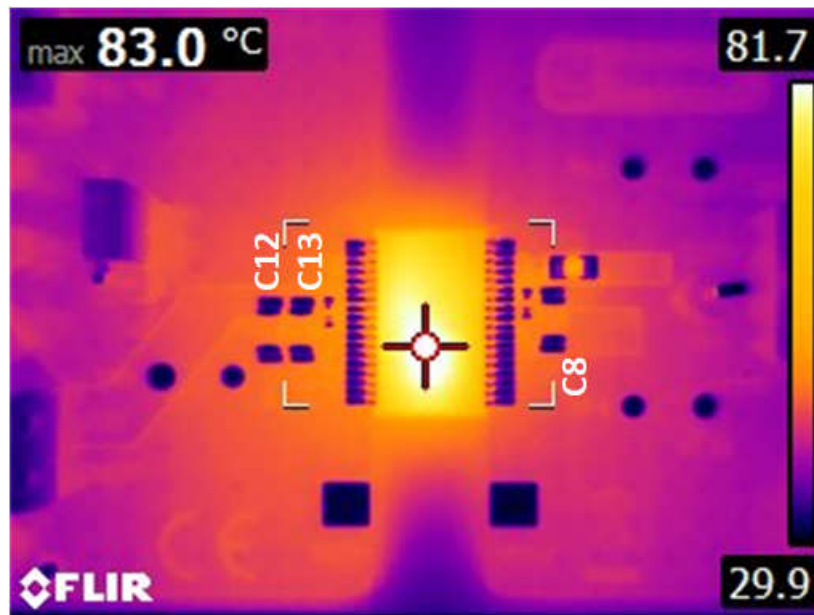

Figure 12-18. Thermal Image
- f. As seen in Figure 12-18, there is a point of diminishing return, regarding the number of vias and size of the thermal via array. For 1.5-W of output power, heat transfer is shown to quickly diminish just beyond C12 and C8. The distance from the inner pad line of U1 to C12 is 320 mils.